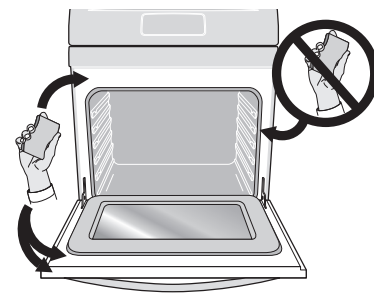

Figure 9: Oven door area to clean and not clean (gasket).
- Clean any soil from the oven frame, the door liner outside the oven door gasket, and the small area at the front center of the oven bottom (See Figure 9). These areas heat sufficiently to burn soil on. Clean using soap and water prior to starting Self Clean.
- Do not clean the oven door gasket (See Figure 9). The woven material of the oven door gasket is essential for a good seal. Care should be taken not to rub, damage, or remove the gasket. Do not use any cleaning materials on the oven door gasket. Doing so could cause damage to the door gasket.